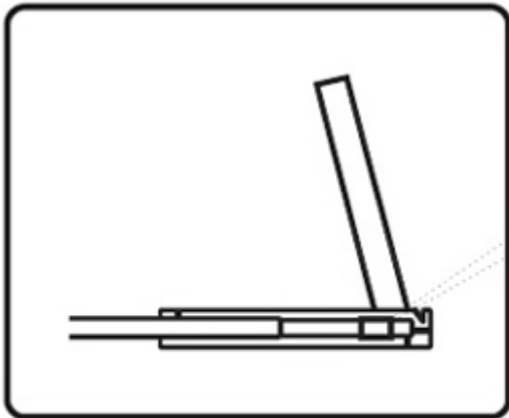

Figure 7.
- A black arrow release button is located on the outside of each slide. (shown in Figure 7).